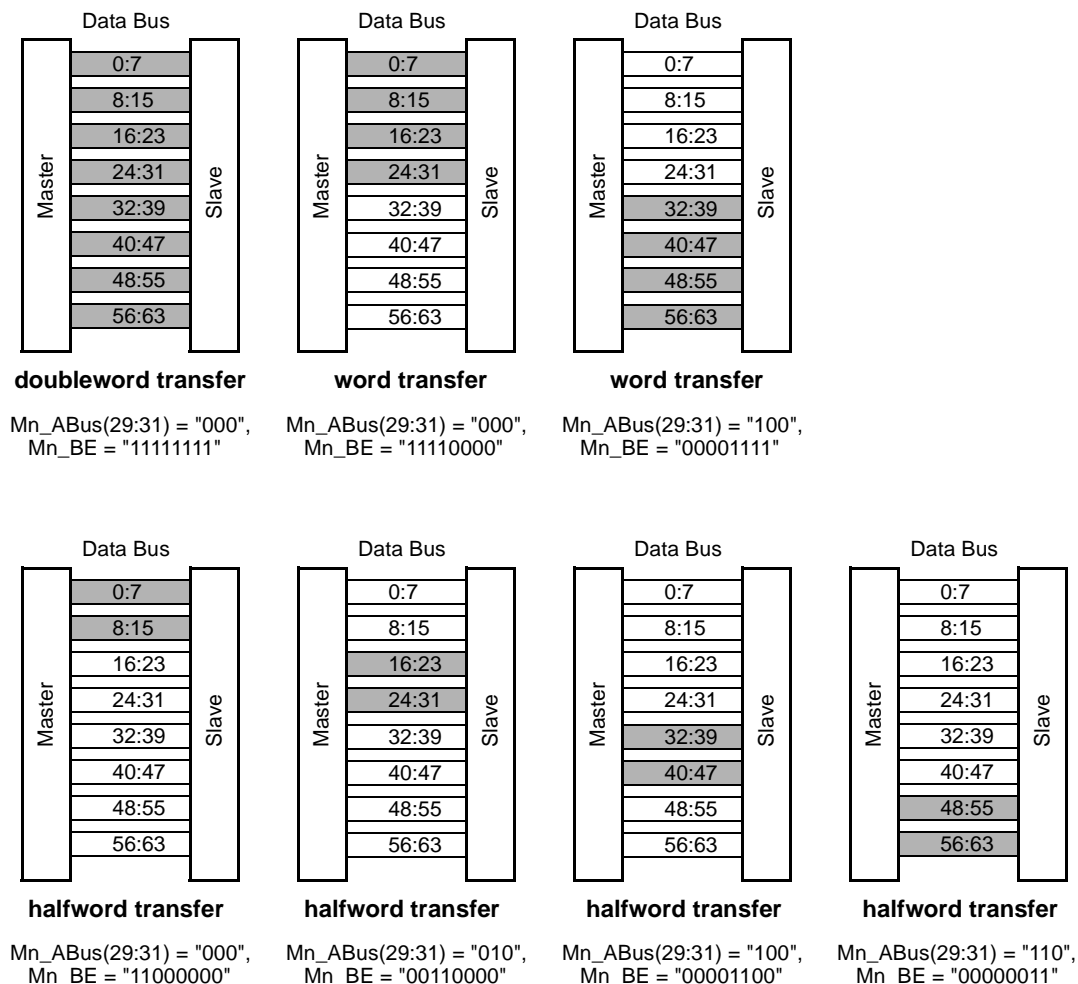
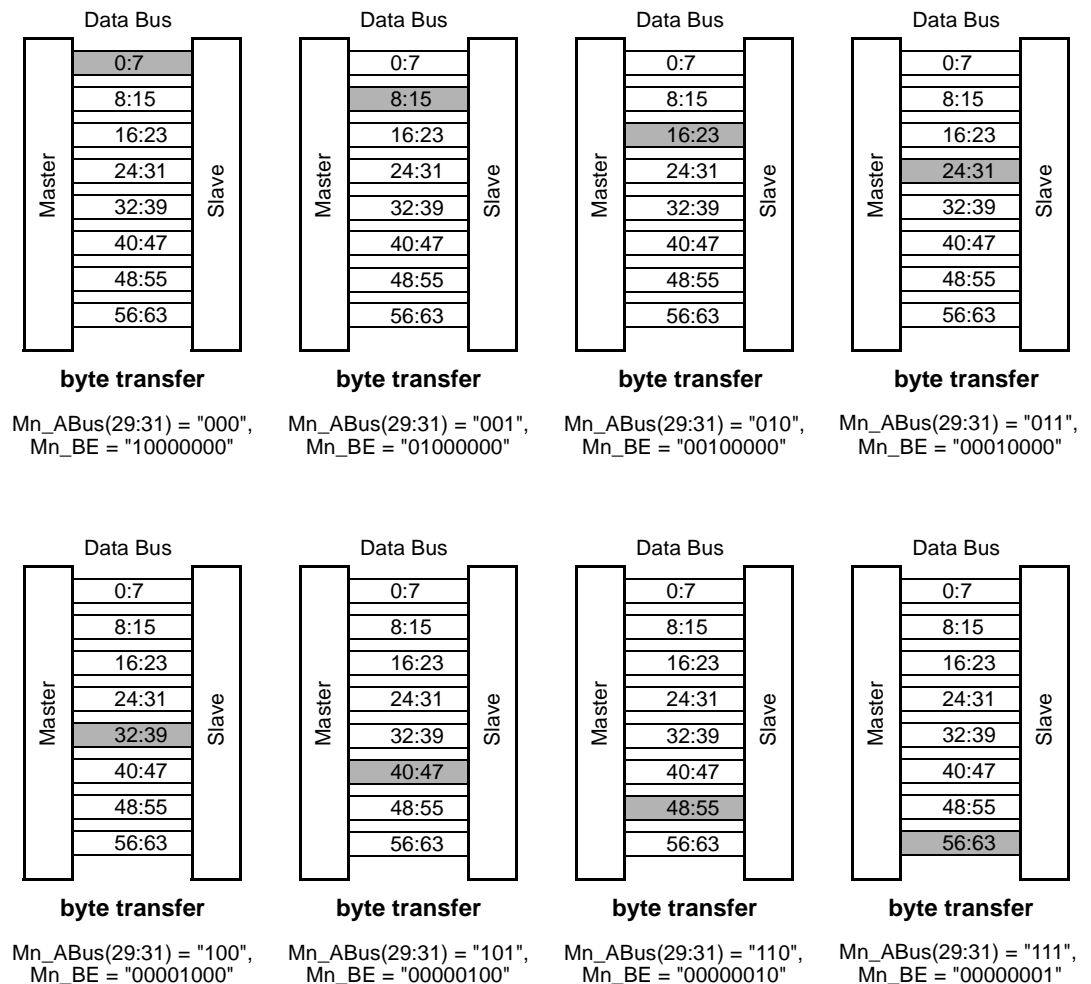

Figure 2-1: Byte lane usage for aligned doubleword, word, and halfword transfers
Figure 2-2: Byte lane usage for byte transfers
- PLB masters are not required to support dynamic bus sizing. PLB masters are not required to mirror data to unused byte lanes. See Figure 2-1 and Figure 2-2 for the byte lane usage for aligned transfers. PLB Masters are required to correctly drive the <Master>\_MSize[0:1] signals. PLB slaves are required to correctly drive the <Slave>\_SSize[0:1] signals for PLB masters that do provide conversion cycles (such as the PowerPC 405).
- The byte-enables and the least-significant address bits are driven by all masters and contain consistent information. Examples of byte lane usage for aligned transfers are shown in Figure 2-1 and Figure 2-2.